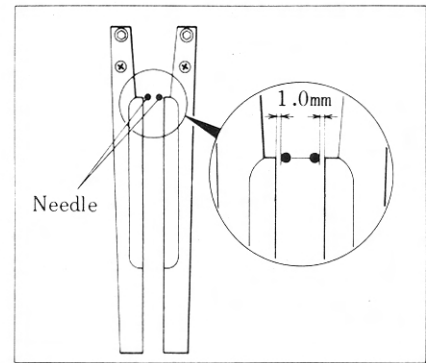

Figure 13
4. Brush Adjustments (Figures 13 and 14)
- (d) Jog the carriage backward (using the incremental feed) until the brushes are next to the needles. Proper clearance should be approximately 1mm for the entire length of the blade (see Figure 13).